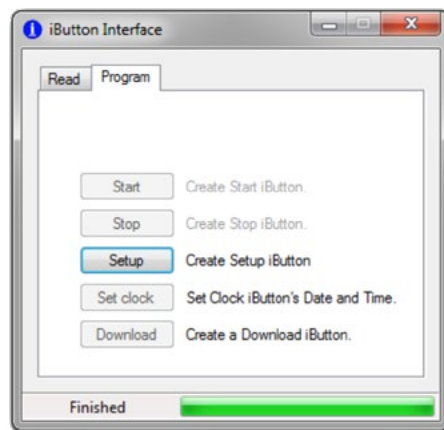

Figure 14
6. The scroll bar in green at the bottom will progress and show Finished when done (Figure 14).